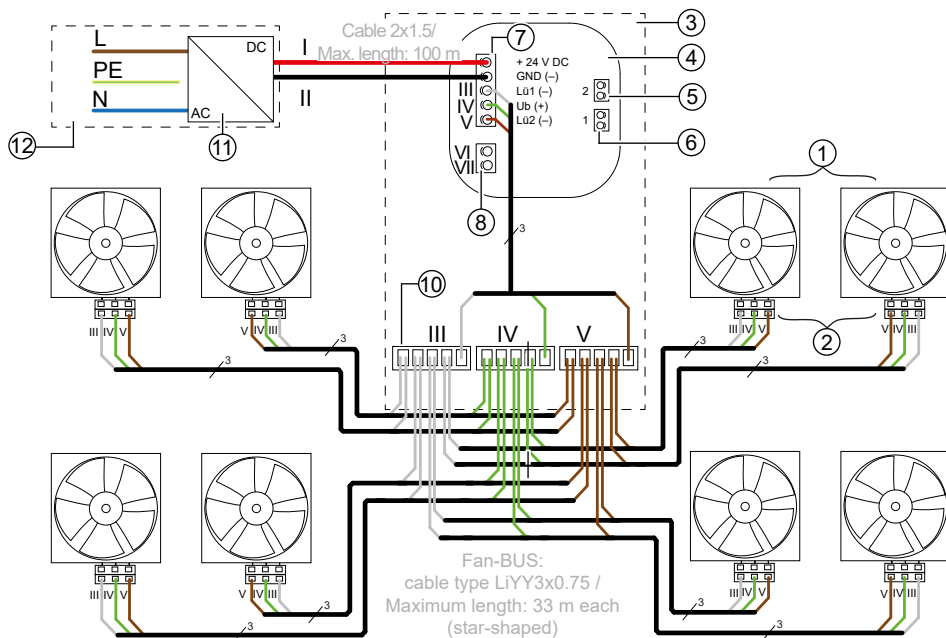

Figure 5: Connection example for controller sMove s8 with cabinet mounted PSU and distribution
| ④ Rear side of operating unit | ⑪ Cabinet mounted PSU NT17-s8 (fig. 5)/